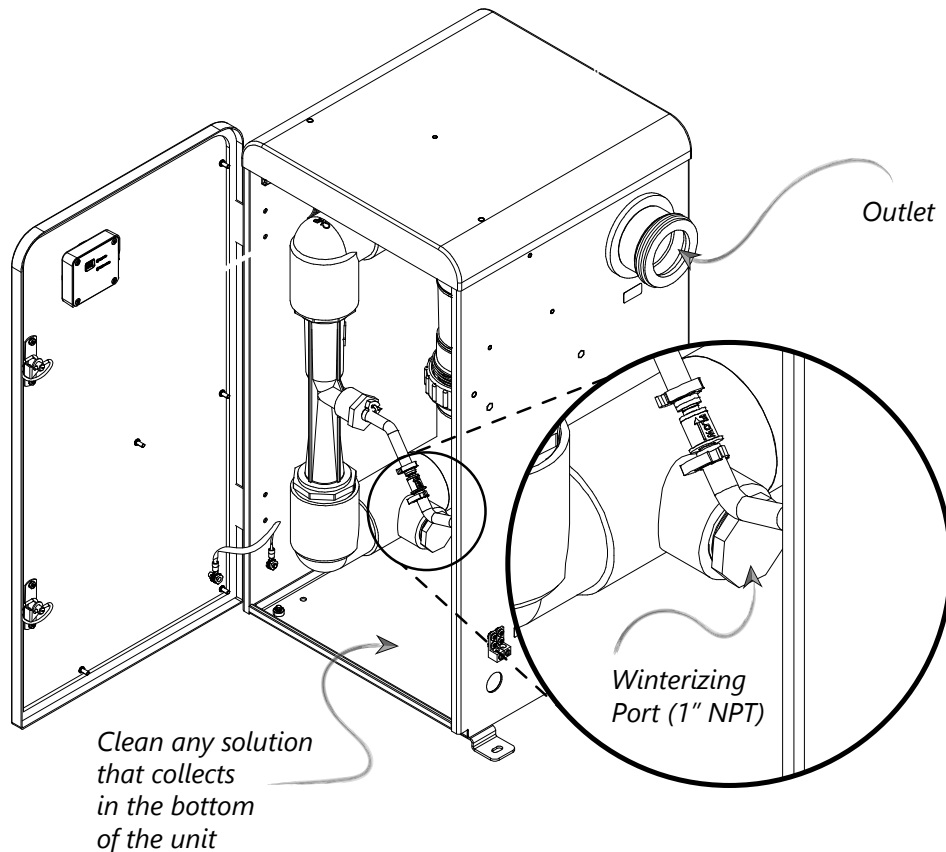

FIGURE 18: In-place Quartz Tube Cleaning
2. Disconnect the union from the outlet port on the right side of the unit and remove the winterizing cap inside the unit. (FIG 18)